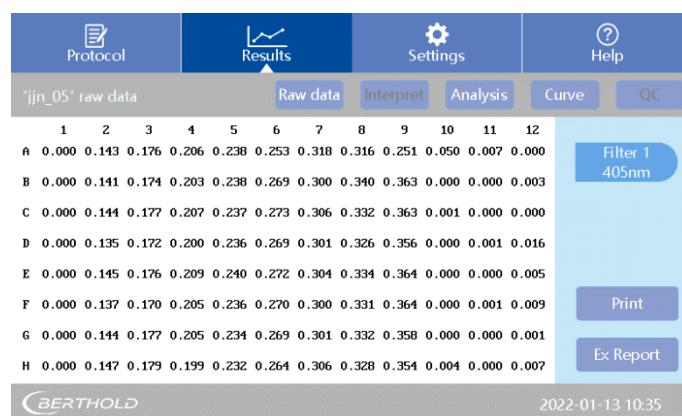

Fig 11: Report interface with results
4. The measurement will take approximately 15 seconds, and upon completion the display will switch to the [**Report**] interface to display measurement results (see Fig 11)